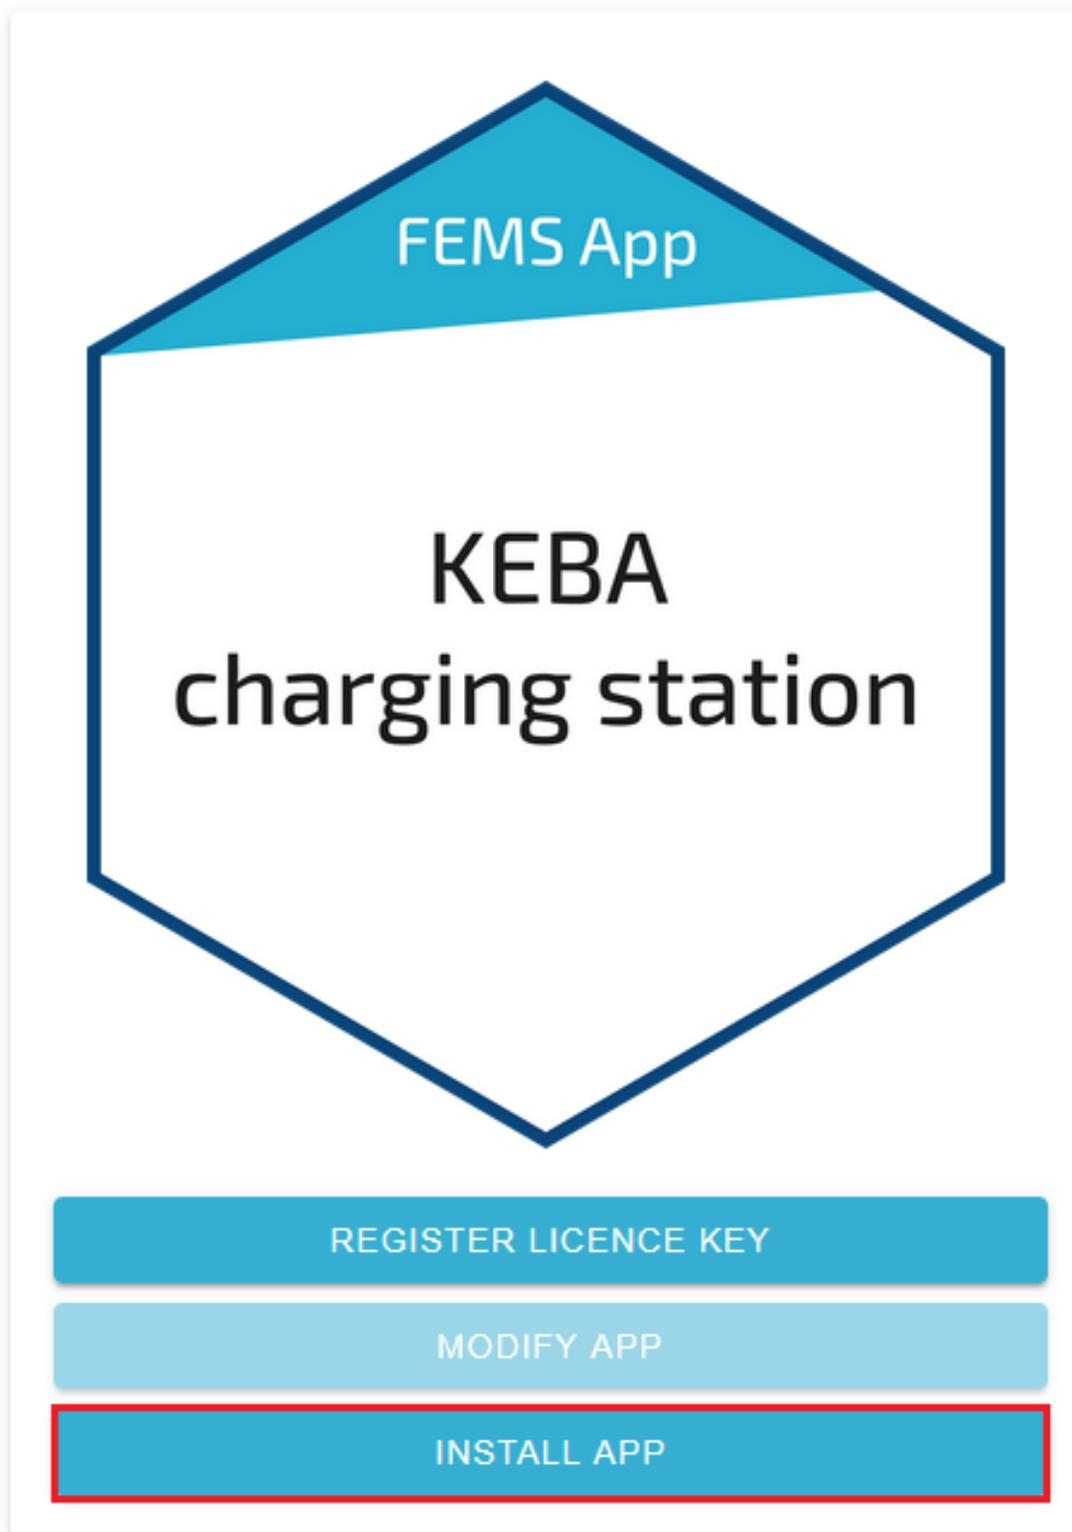

Figure 20. App installation — Variant 2: Step 4
- Figure 20. App installation — Variant 2: Step 4